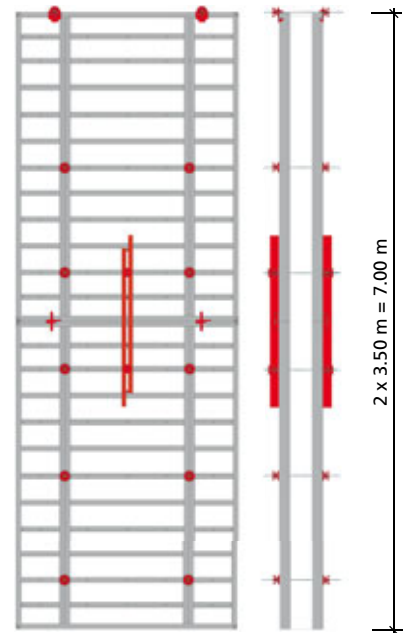

Fig. 34.2
■ When extending 2 M 350 panels vertically for a total formwork height of 7.00 m, the top panel does not need tying at its top if a Uni-tie claw is attached over the top panel (Fig. 34.2).